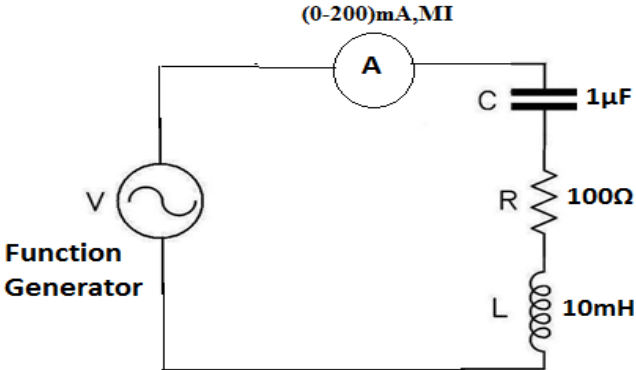

Fig.1
1. Make the connections as per the circuit diagram shown in fig1.